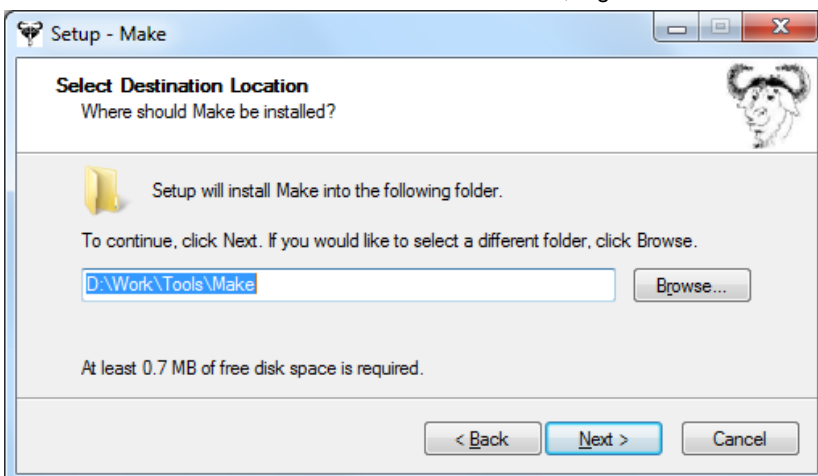

Figure 14: Installing Make utility
3. Select the Destination Location to be a known folder, e.g.: `D:\Work\Tools\Make` (Figure 14)